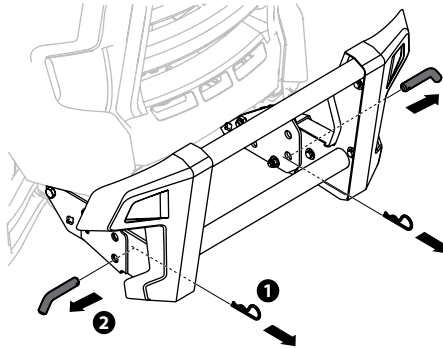

Figure 4-19
1. Remove two cotter pins, and then pull the pins. See Figure 4-19.